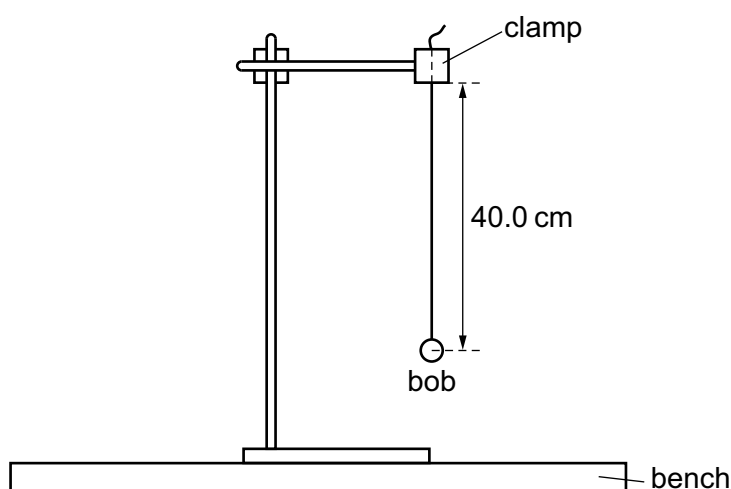

Fig. 5.1
5.1 The apparatus should be assembled as shown in Fig. 5.1. The pendulum must be set up for the candidates with a length of 40.0 cm from the bottom of the split cork to the middle of the pendulum bob.
5.2 Candidates must be able to adjust the length of the pendulum easily up to a length of 80.0 cm. Retort stands of 80 cm or less in height may be used if the retort stand is positioned so that the pendulum hangs below the level of the bench. The base of the stand would need to be secured with a G-clamp and/or a heavy weight. Supervisors may need to warn candidates of the difference between the diagram in Fig. 5.1 and the set-up of their experiments.